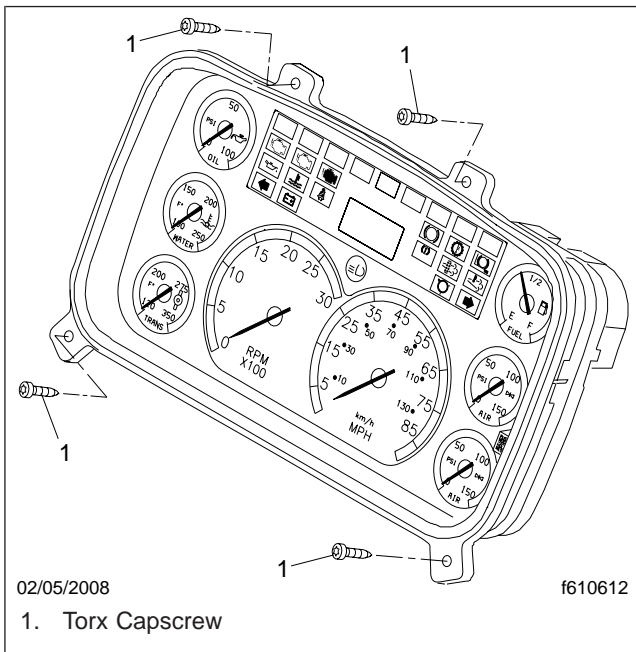

Fig. 3, ICU3 Installation
3. Remove the four capscrews that secure the ICU3. See Fig. 3.